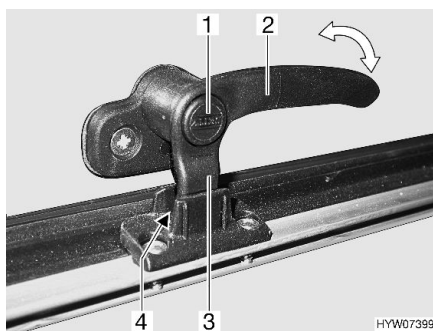

Fig. 23 Catch lever in the "continuous ventilation" position
- "Continuous ventilation" (Fig. 23)
- Press the safety knob (Fig. 23,1) and keep it pressed.
- Turn the catch lever (Fig. 23,3) a quarter turn towards the centre of the window.
- Return the catch lever to its initial position. Move the locking catch (Fig. 23,3) on the catch lever into the recess of the window catch (Fig. 23,4).
- Release the safety knob (Fig. 23,1).